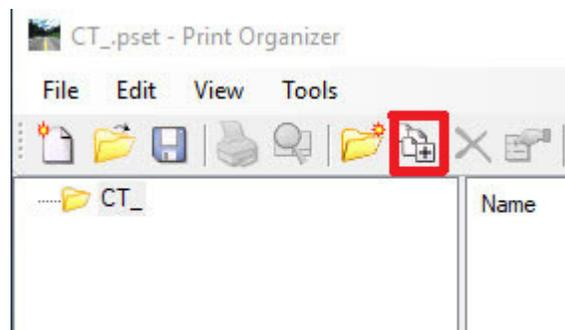

Figure 21 "Print Organizer Dialog ADD FILES"
Step 3. Select **ADD FILES TO SET** (figure 21 below)